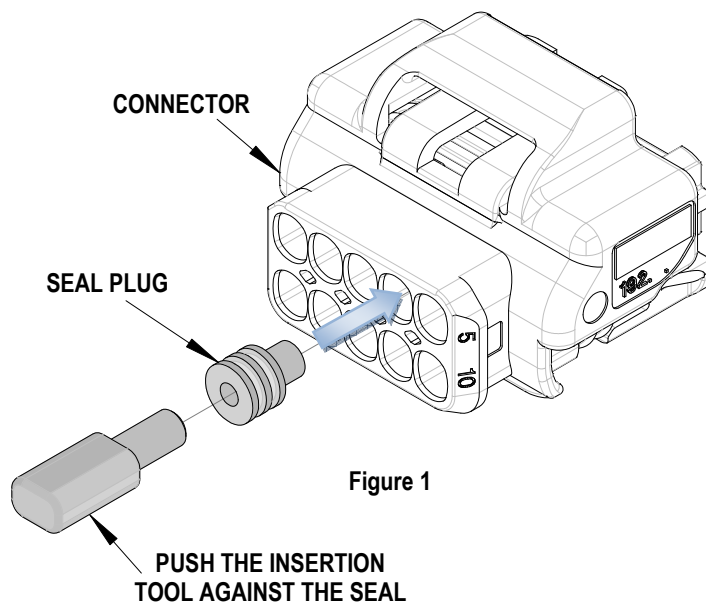

Figure 1
1. The Seal Plug has a specific direction in which it is inserted into the Sealed Connector Assembly. See Figure 1.